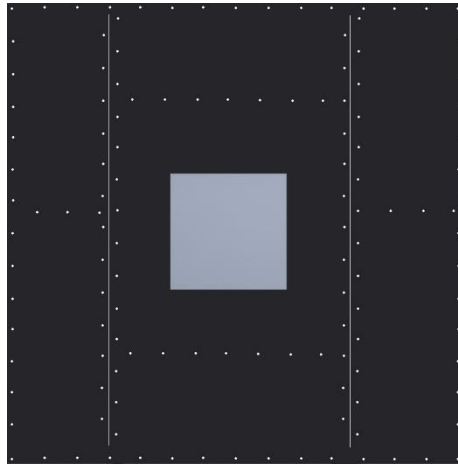

Figure 6
- Figure 6 shows the screwing pattern